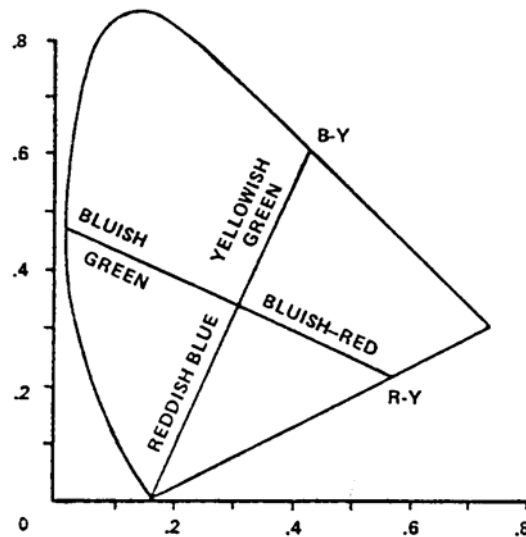

Figure S-22. R-Y and B-Y Chromaticity Coordinates
Since picture detail is a function of the transmitted signal bandwidth, and since there is a limited amount of bandwidth allowed for chrominance information, this is an important point to consider. As shown in Figure S-22, the highest usable video brightness signal frequency is 4.1 MHz, with the chrominance subcarrier at 3.58 MHz.
d. Notice in Figure S-22 that if R-Y were the extended sideband, fine detail would appear as either a bluish-red (magenta) or a bluish-green (cyan). On the other hand, if B-Y were the extended sideband, only reddish-green or yellowish-green colors would be produced. Fine color detail can be represented accurately to the eye by orange or cyan for any color.